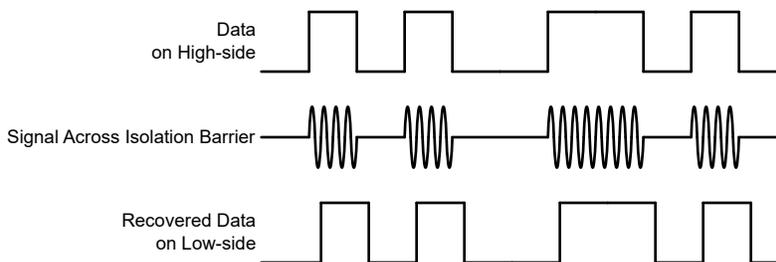

Figure 7-4. OOK-Based Modulation Scheme
The AMC22C11-Q1 uses an on-off keying (OOK) modulation scheme, as shown in Figure 7-4, to transmit the comparator output states across the SiO₂-based isolation barrier. The transmit driver (TX) shown in the *Functional Block Diagram* transmits an internally-generated, high-frequency carrier across the isolation barrier to represent a digital *one* and does not send a signal to represent a digital *zero*.